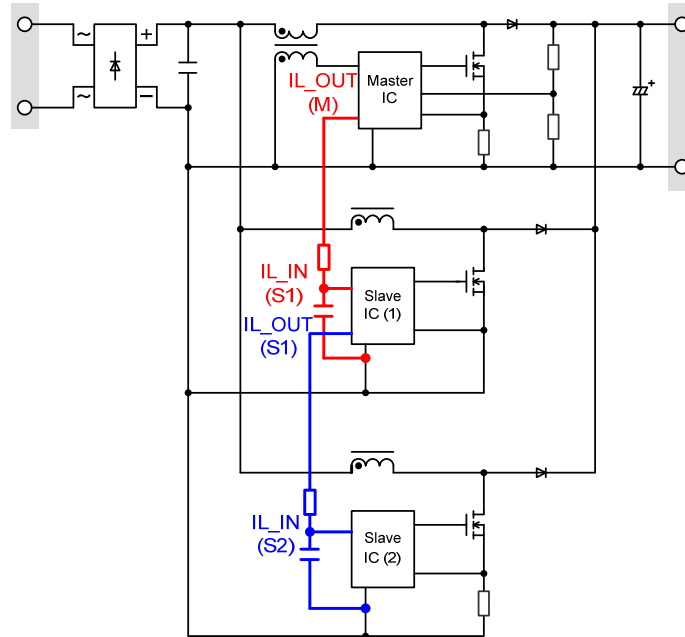

Fig. 8 Example of interleaved connection
As shown in Fig. 8, for multi-phase interleaving of three or more phases, the IL_OUT(S1) pin is connected to the IL_IN(S2) pin of the next slave IC.
- 1) The OUT (M) of the master IC outputs a Hi signal determined by the negative edge of the Z/C pin and the COMP pin voltage.
- 2) The IL_OUT(M) signal of the master IC is output in sync with the OUT(M) (waveform C and arrow 1).
- 3) The IL_OUT(M) signal of the master IC is input to the IL_IN(S1) pin of the slave IC via CR as shown in Fig. 8 (waveforms C and D and arrow 2). In the slave IC (1), the counter circuit stores the ON range of the IL_IN(S1).
- 4) The OUT(S1) of the slave IC (1) is turned on when the master IC is turned off to output the stored ON range. The ON range is the same as that of the OUT(M) (waveform E and arrow 3).
- 5) The IL_OUT(S1) signal of the slave IC (1) is output in sync with the OUT(S1) (waveform F and arrow 4).
- 6) To achieve multi-phase interleaving, connect the IL_OUT(S1) pin to the IL_IN(S2) pin of the next slave IC (2) (waveform F and arrow 5).